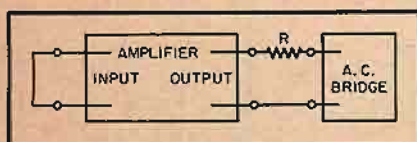

Fig. 7. Set-up for measuring output impedance.
Fig. 7 and adding compensator R_4C_2 . This is equivalent to combining (B) and (C). Proper choice of values and tap can yield a closer approximation to the theoretical curves of Fig. 5.
An alternate method of measurement is interesting and useful because of its simplicity and because it may be used to measure either positive or negative values. An a.c. bridge and a resistor are required. The resistor should be somewhat larger than the negative resistance the amplifier is expected to have and should be measured first on the bridge by itself. Then the resistor, bridge, and amplifier are connected as shown in Fig. 7 and the bridge is bal-
If, for example, the resistor is 10 ohms and in the circuit of Fig. 7 the bridge balances at 5 ohms, the amplifier internal resistance is $5 - 10 = -5$ ohms. A positive internal amplifier resistance may be measured simply by connecting the bridge to the amplifier without a resistor and accepting the indication of the bridge at balance.